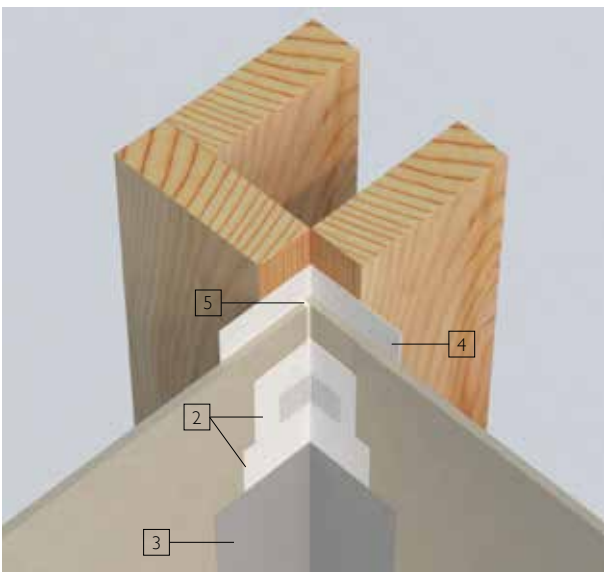

Figure 26
6. PVC angle overlap shower base upstand. Start 6mm clear of shower base rim. Height 1800mm min. See Figure 26